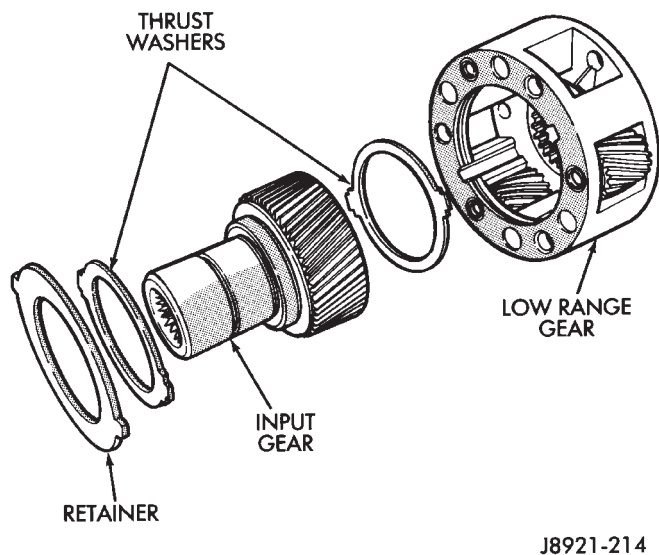

Fig. 32 Low Range Gear Disassembly
(46) Remove input gear retainer, thrust washers and input gear from low range gear (Fig. 32).